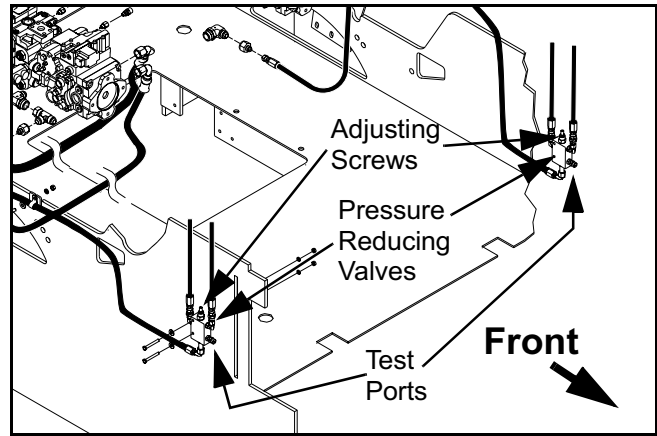

Figure 5 - 17 Pressure Reducing Valves
- 1) Install pressure gauge (3000 psi) at test port marked BTM on the Track Tension Release Valve (Figure 5 - 19).